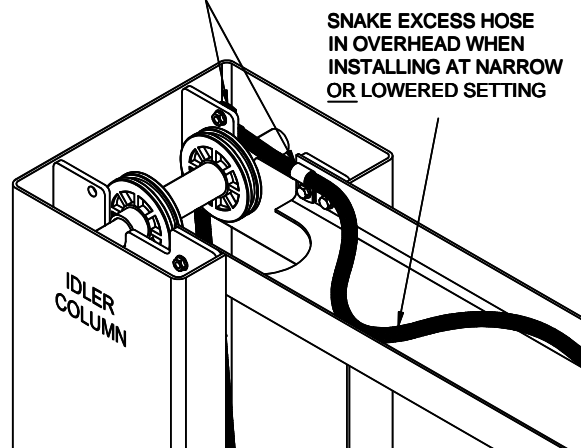
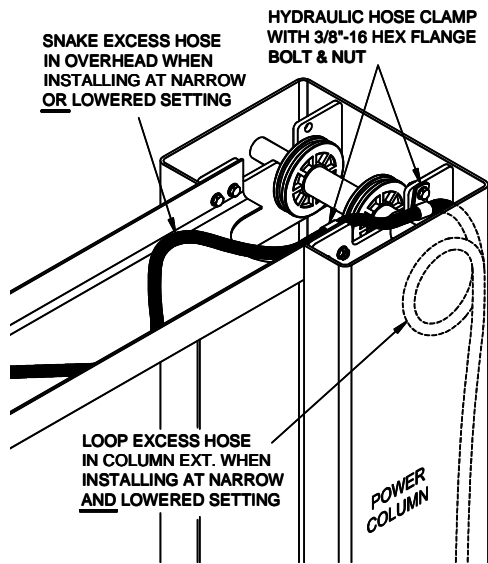

Fig 10a – Hydraulic Hose from Idler Column to Overhead.
Fig 10b – Hydraulic Hose from Overhead to Power Column.
- 26) From Idler Column route the hydraulic hose (*factory installed from cylinder to top of column*) up to Overhead. **LOOSEN FACTORY INSTALLED CLAMP AT TOP OF IDLER COLUMN AND GENTLY PULL UP ANY SLACK FROM HOSE.** Install a hose clamp in column extension and in overhead beam with (1) 3/8"-16 x 3/4" lg. hex flange bolt and hex flange nut per clamp as shown in **Fig 10a**.
- 28) While gently pulling slack up from the "T" fitting to the top of the power column extension, **twist the hose until it lays flat in the overhead beam.** (When installing lift at narrow or low setting, excess hose should be snaked in bottom of overhead, **Fig 10a**. When installing at narrow and low setting, form a loop in the column extension between the overhead support plate and the inside wall of the column extension, **Fig 10b**.) Install hose clamps identical to idler side, one hose clamp at the top of the column, one at the top of the column extension and one at the end of the overhead. **Fig 10b**. Tighten connection at "T" fitting.